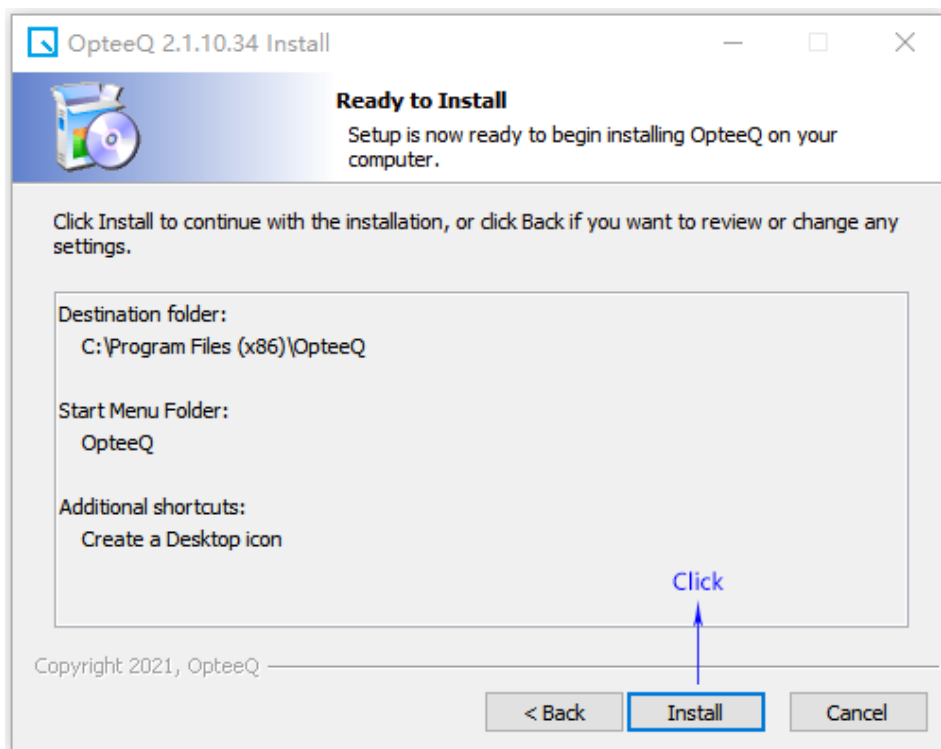

Figure 1.8: Step 8
Step 8: Click "Install" in the pop-up interface, as shown in Figure 1.8.